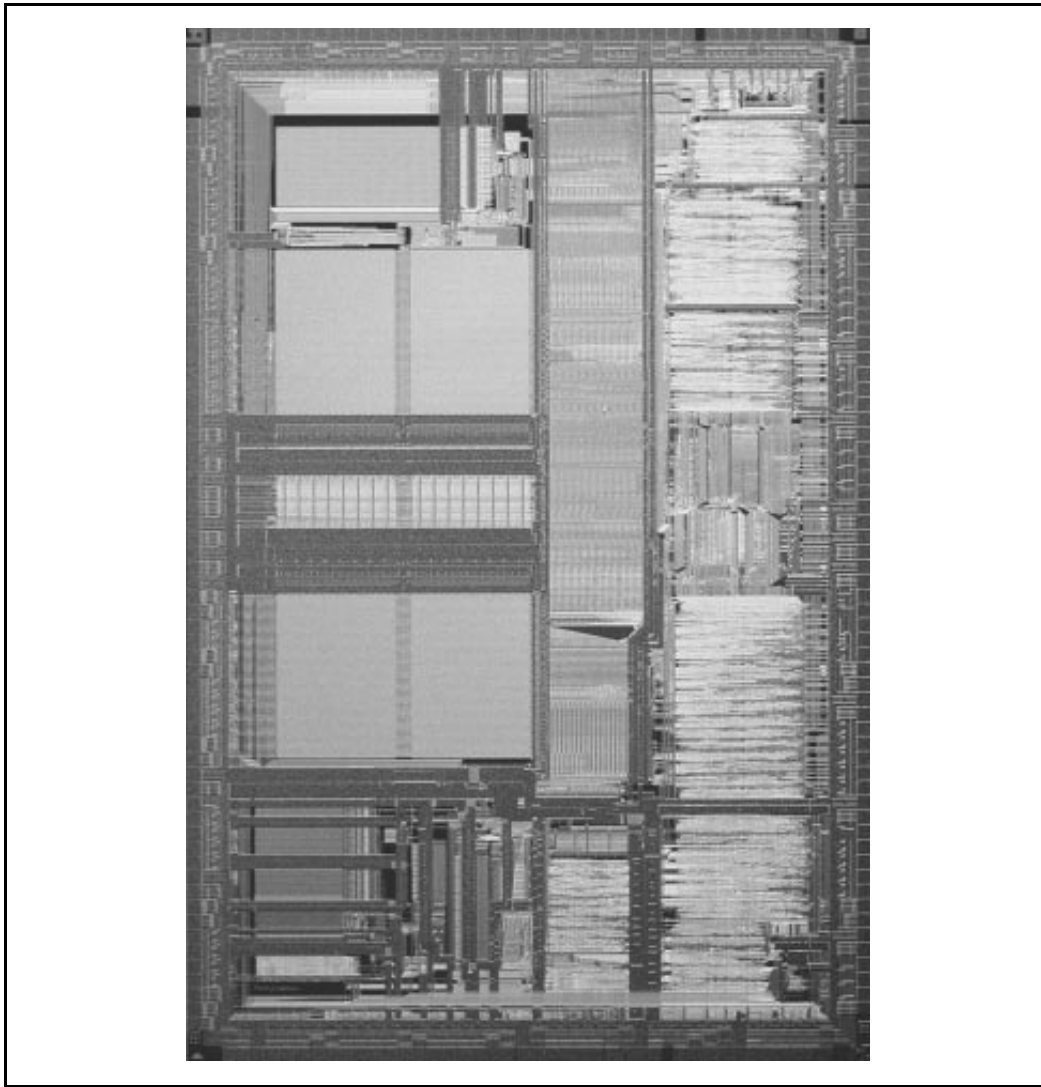

Figure 1. Embedded Ultra-Low Power Intel486™ GX Processor Die Photo
- Figure 1. Embedded Ultra-Low Power Intel486™ GX Processor Die Photo 1